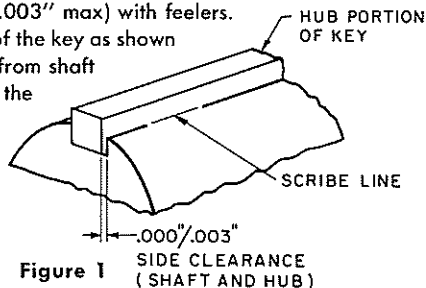

Figure 1
**2. CHECK KEY FIT** — Insert key into shaft and check side clearance (.000" to .003" max) with feelers. Scribe a line on the side of the key as shown (Figure 1). Remove key from shaft and insert hub portion of the key into the hub keyway. The scribe mark must NOT be visible; if it is, check key height and depth of keyways. The key corners must not cut into the fillet of the keyway. Check side clearance in hub.